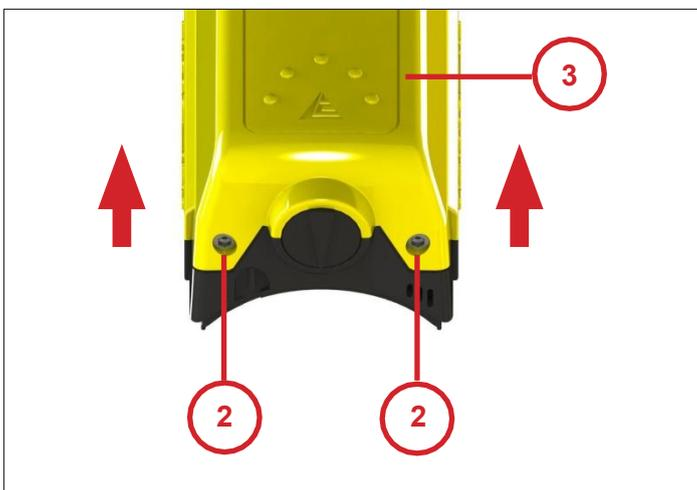

Fig. 14
- Remove the top part of the device (3) as described in Fig. 14.
- Loosen the 2 Phillips head screws (14) to set the vibration strength.